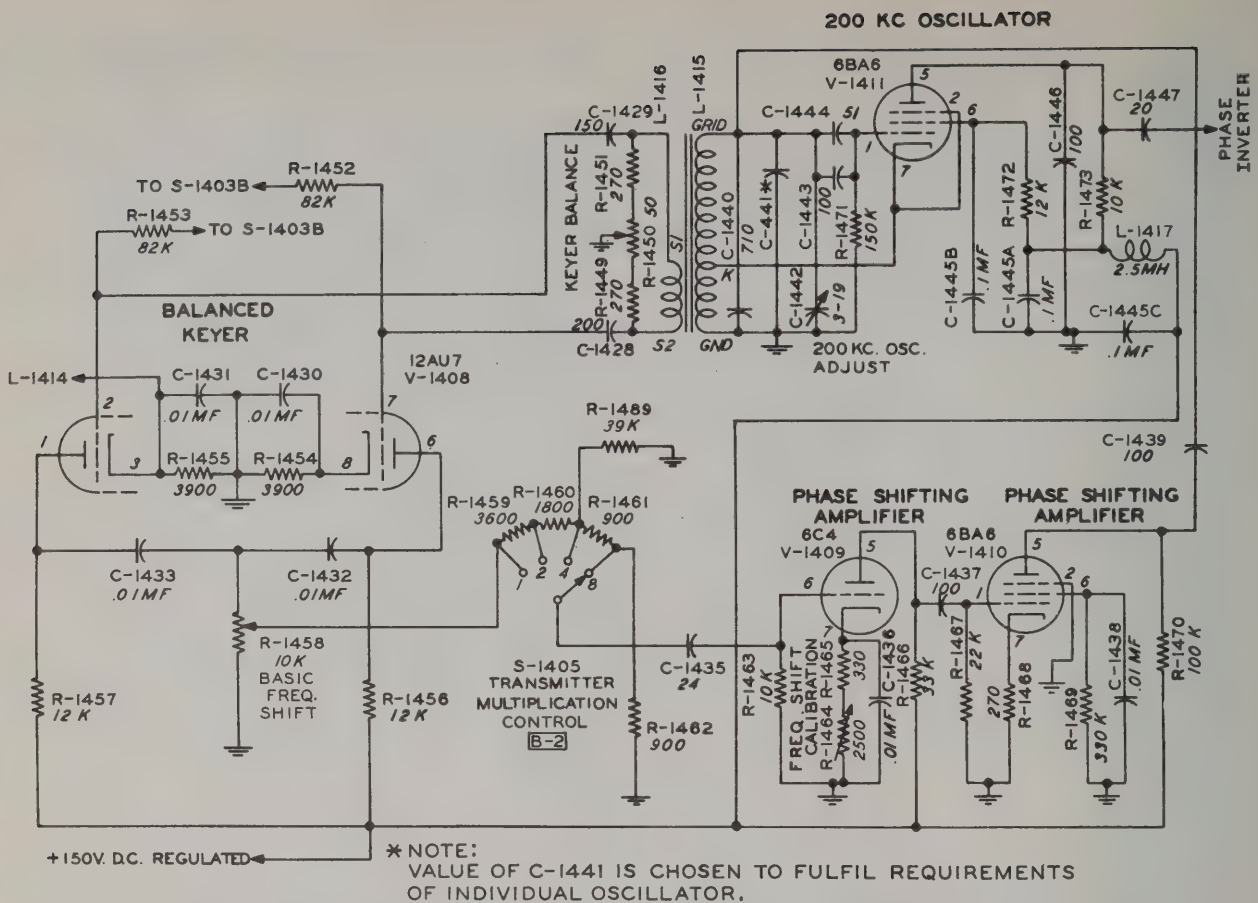

Figure 106. Frequency-Shift Keyer KY-45/FRT-5, 200-KC Oscillator, Balanced Keyer, and Phase-Shifting Amplifiers, Schematic Diagram.
(3) 200-kc oscillator, balanced keyer, and reactance amplifiers (fig. 106).